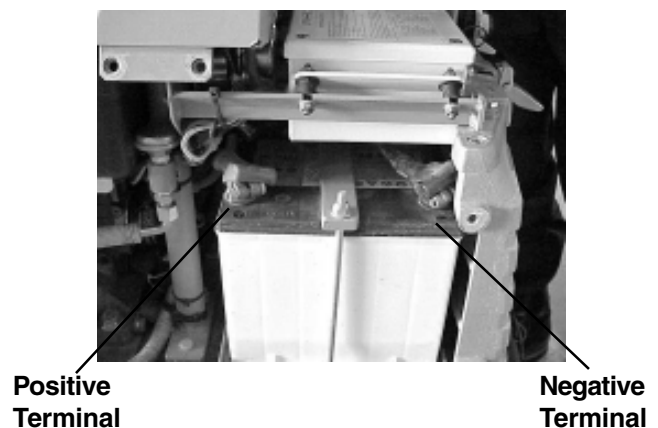

Figure 16. Battery Location
1. When removing cable, disconnect the ground side (normally negative) first (Figure 16).